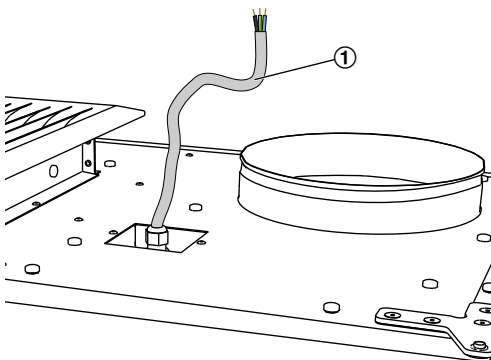

Fig. 22: Mains cable
1. ▶ Connect the supply voltage of the device to the connecting cable (Fig. 22 /1).